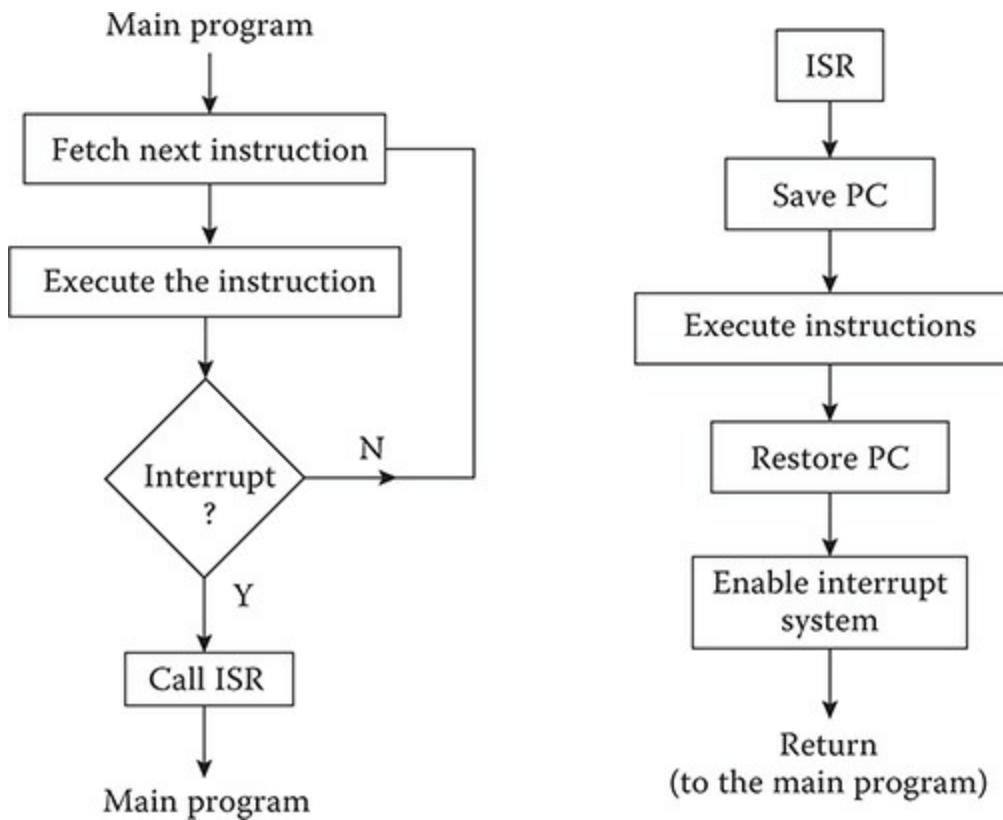

Figure 1-7 Interrupt flow diagram.
Figure 1-7 is a flow diagram of a generic interrupt sequence. This diagram will make it easier to understand how an interrupt works.
ISR in Figure 1-7 stands for interrupt service routine, which is the program code that executes whatever needs to be accomplished due to the interrupt. The block containing the phrase “Call ISR” causes the current state or context of the MCU to be saved in SRAM. The current state typically consists of the contents of program counter (PC) and a preset number of registers that depends on the MCU model. The PC is a register, which contains the address of the next instruction to be executed when the interrupt was recognized. The actual ISR code may be located anywhere in memory because it is accessed by replacing the PC with the first address of the ISR.